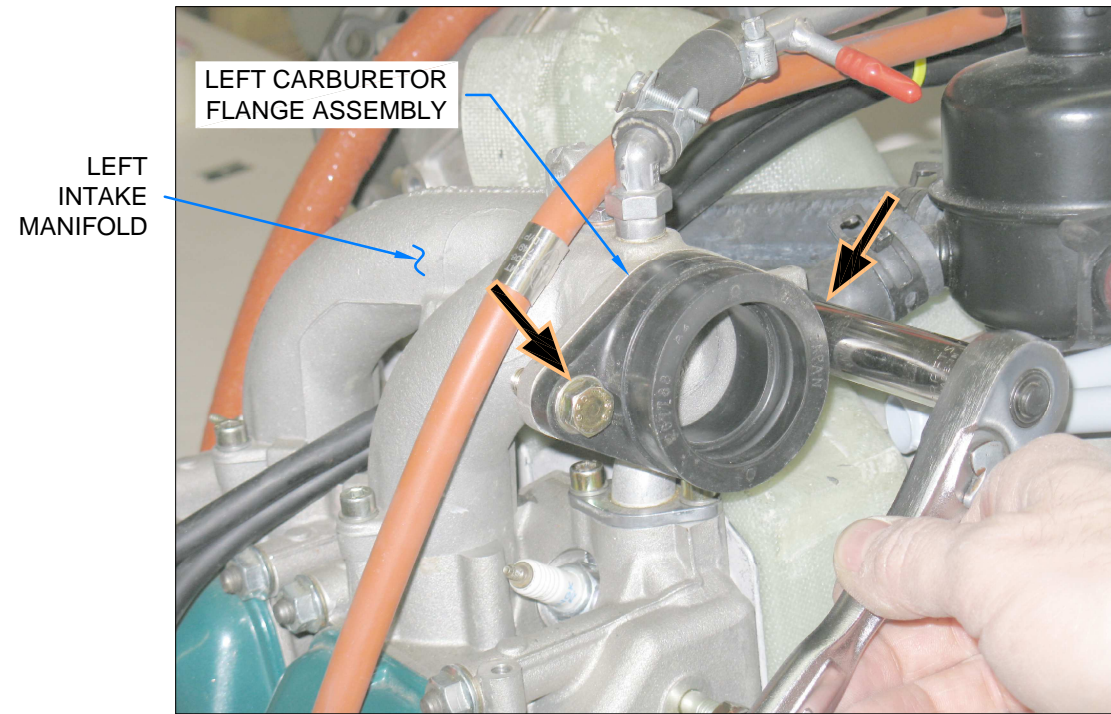

FIGURE 1:
Step 1: Remove the two bolts securing the left carburetor flange assembly to the left intake manifold. See the arrows in Figure 1.